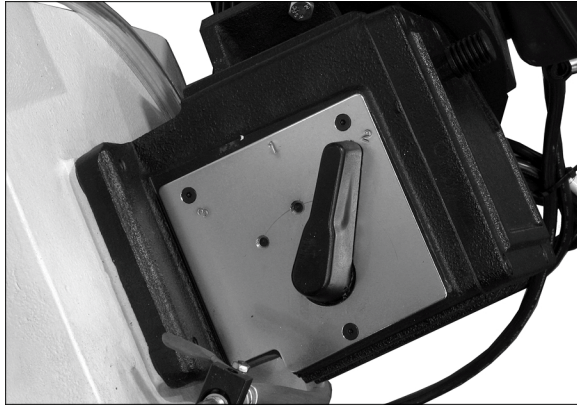

Figure 23
2. Turn lever (Figure 23) to desired setting: